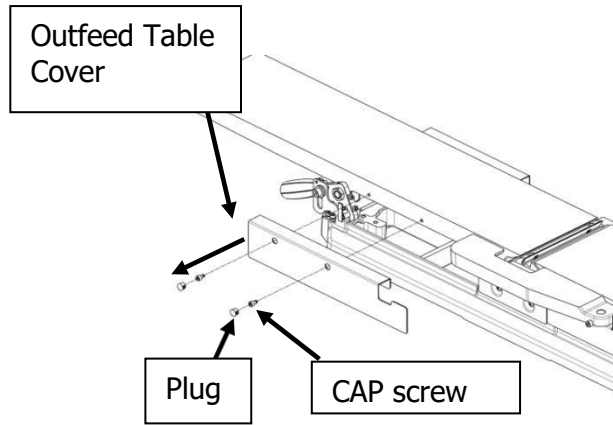

Fig. 30: Cover
**STEP 2:** Remove the plugs and loosen CAPscrews to release and remove outfeed tablecover as in **FIG. 30**.